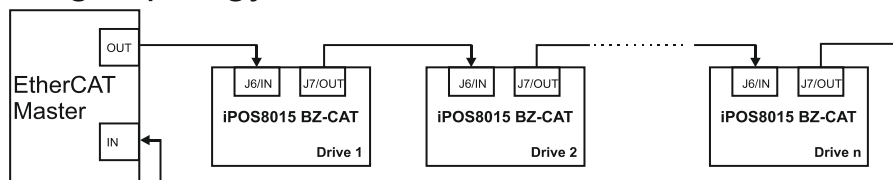

Figure 29. EtherCAT network ring topology
- See Figure 29. EtherCAT network ring topology for a visual representation of the ring topology.